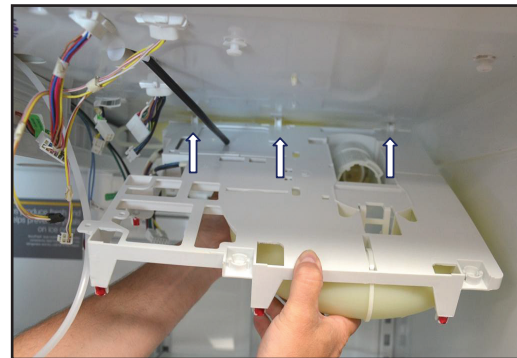

FIGURE 12
14. Drop the front of the housing and disengage the 3 rear tabs from the three slots in the top of the refrigerator cabinet. See *Figure 12*.